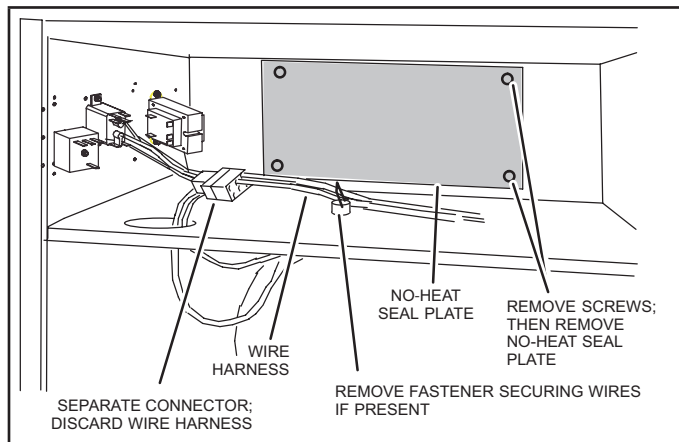

FIGURE 1. Prepare to Install Heat Element
- 3 - Disconnect any existing field supply wires and pull them out of the air handler. Disconnect and remove wiring harness and fastener (see figure 1). If not removed, these items will prevent the heat section's base from resting properly in the compartment.
- 4 - Remove the no-heat seal plate in the air handler frame (see figure 1).